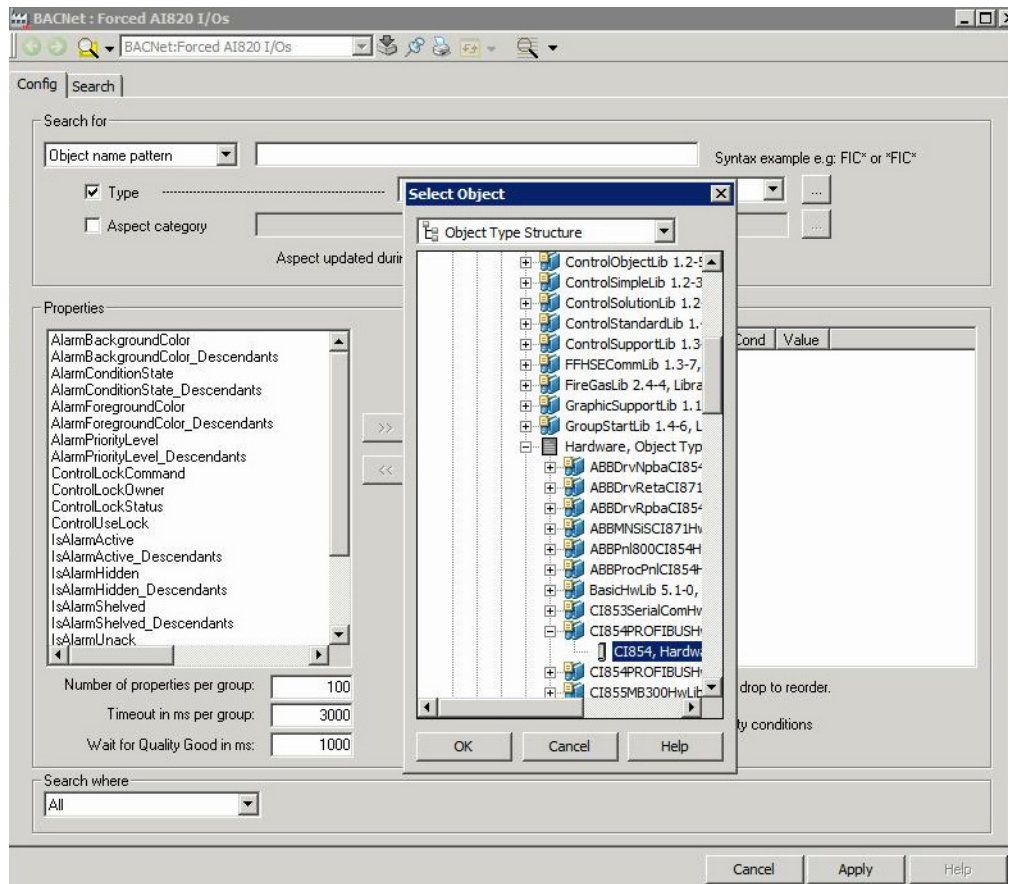

Figure 5. Template configuration view
2. Select the Type box, click on the **Browse** button to the right of the drop-down window. Browse for a Hardware type in the Object Type structure as shown in Figure 5 and Click **Ok**.